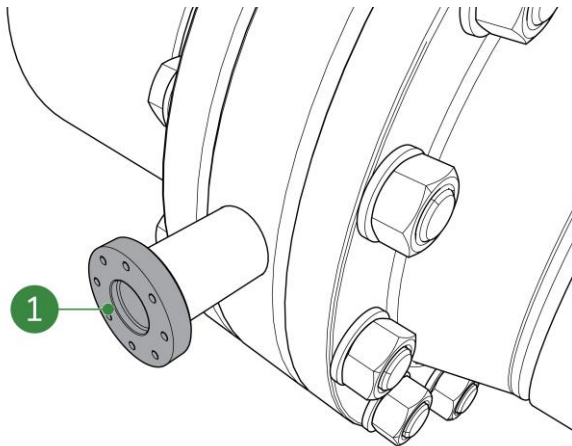

Figure 5-9: Receiving flange of pipe integration system
2. Every pipe integration system has a receiving flange (Figure 5-9, pos. 1) with eight (8) threaded holes. Make sure that all eight (8) threaded holes of the receiving flange are clean and undamaged.